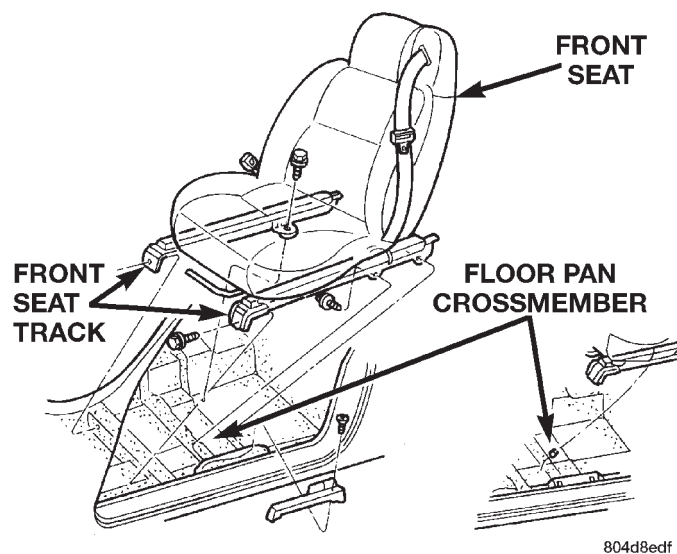

Fig. 53 Front Seat
- (1) Position seat in full rearward position.
- (2) Remove front inboard and outboard bolts holding seat to floor pan crossmember (Fig. 53).
- (3) Move seat to full forward position.
- (4) Remove rear inboard bolt holding seat to floor pan.
- (5) Remove rear outboard bolts holding seat to side sill pylon.
- (6) Tilt seat forward and disconnect wire connector to seat belt retractor.
- (7) Separate seat from vehicle.
- (6) Tilt seat forward and disconnect wire connector to seat belt retractor and power seat mechanism.